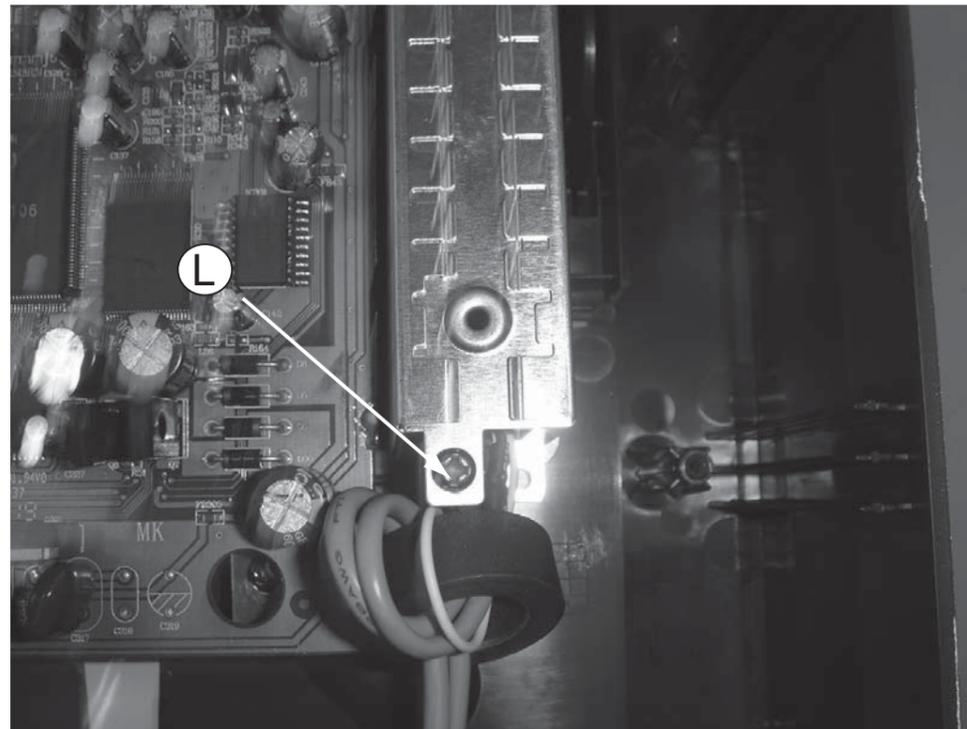

Figure 12
- 2) Loosen 1 screw "L" at top of the tuner pad as shown in figure 12.